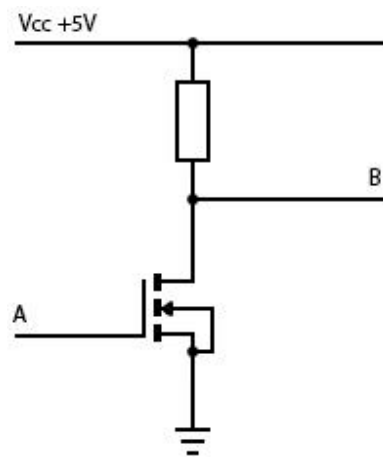

Fig 1.1
- a) The apparatus was set up as shown in Fig 1.1, with a $1\text{k}\Omega$ resistor connected in series to the *drain* of a 2N7000 E-MOSFET. The V_{CC} was also connected to an LED at B used to detect current flow. An external source was connected at A which is the *gate source voltage* (V_{GS}). The *source* of the transistor was then connected to ground. By using a switch V_{GS} was varied between 0V and +5V. The voltage across B was measured at both stages and the state of the LED was also recorded. The results were plotted in the form of a truth table.
- The circuit as seen in *Fig 1.1* can be said to operate as an inverter. When the control voltage at A is HIGH (+5V) the output voltage at B is LOW (0V). On the other hand, when the control voltage at A is LOW (0V) the output voltage at B is HIGH (+5V). The truth table seen above also matches that of a boolean inverter (NOT Gate).